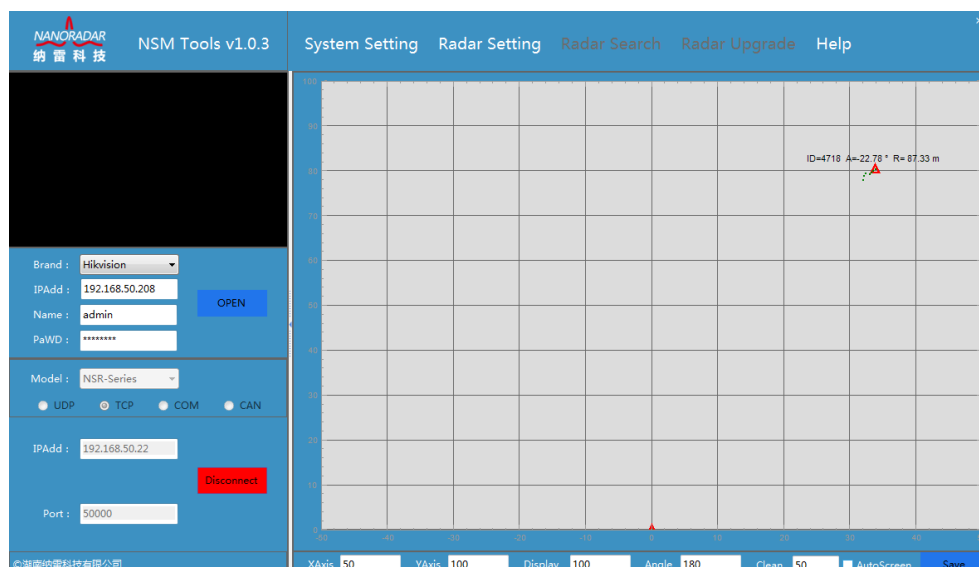

Fig 1-6 Target Information Display
Step 5: As shown in Fig 1-6, target ID:4718,A(angle)=-22.78°,R (range) =87.33m.